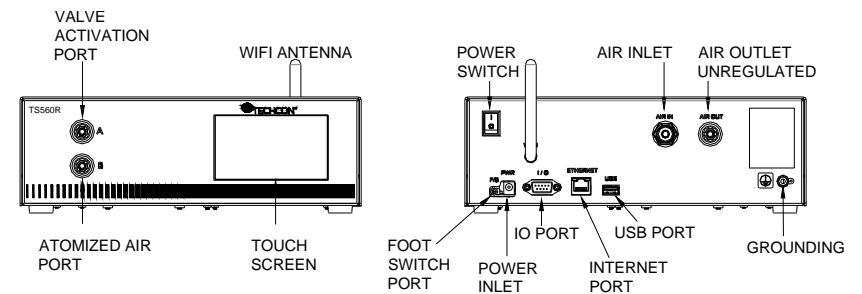

Figure 1.0
5.1 Connecting the Unit: (Refer to Figure 1.0 and 2.0)